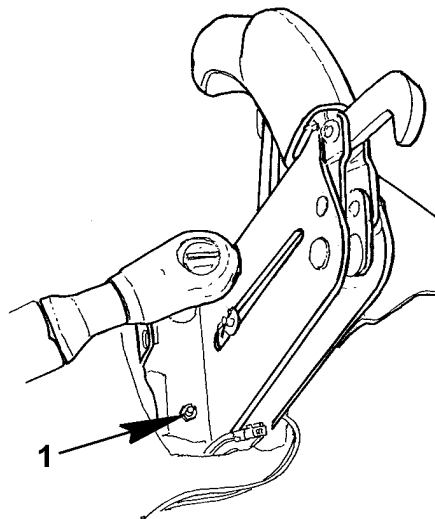

Figure 4: Mounting Fastener Removal
- 5. Remove 4 mounting fasteners, (3 nuts and 1 bolt, short brake assembly) and (4 bolts, tall brake assembly) located at the parking brake base plate (Figure 4).